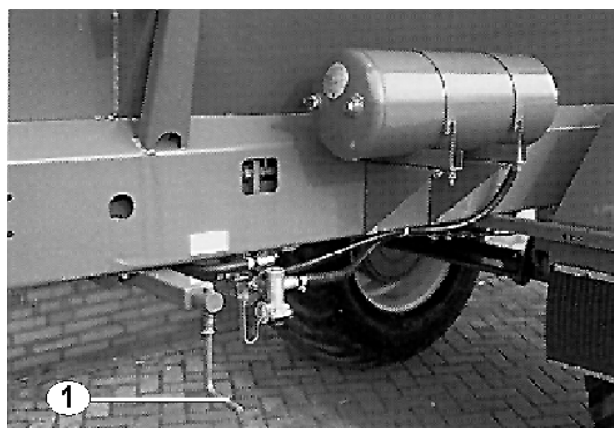

Fig. 20
- On broadcasters with air brakes, the brake is applied using a crank (Fig. 20/1) at the side of the vehicle. Turn the crank to the right as far as it will go.